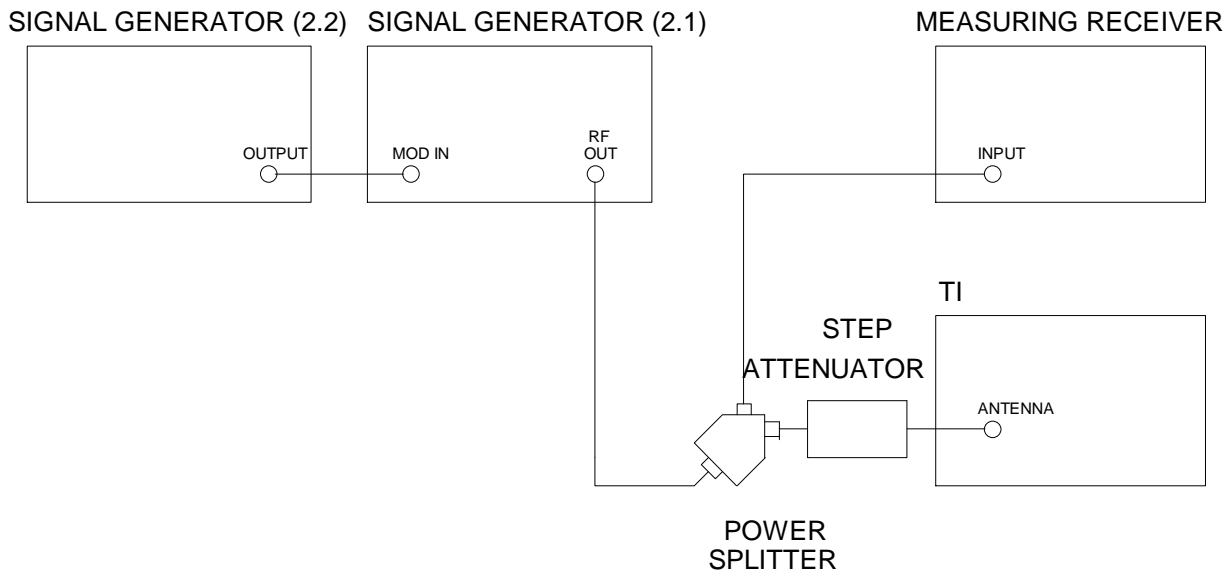

Figure 2.
4.3.2 Connect equipment as shown in Figure 2 with Step Attenuator set to 50 dB.